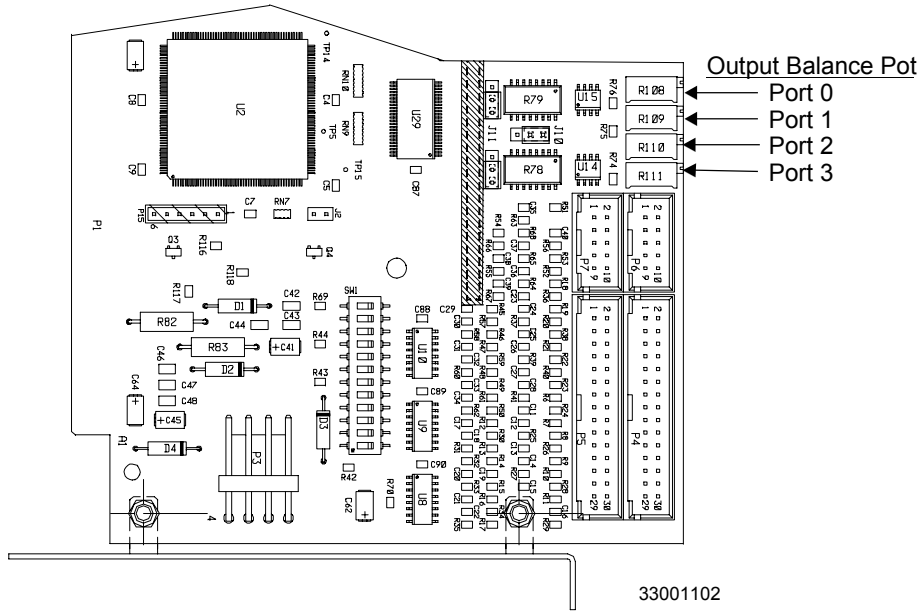

Figure 5, ANILAM DSP² Board Balance Pots, P/N 33001102
Refer to Figure 5, ANILAM DSP2 Board Balance Pots, P/N 33001102. Measure command voltages across **TP1** and **TP2** of the test board.
3. Refer to Figure 5, ANILAM DSP2 Board Balance Pots, P/N 33001102. Make adjustments for axis outputs 0–3 on the DSP² Board at potentiometers R108-R111 respectively.